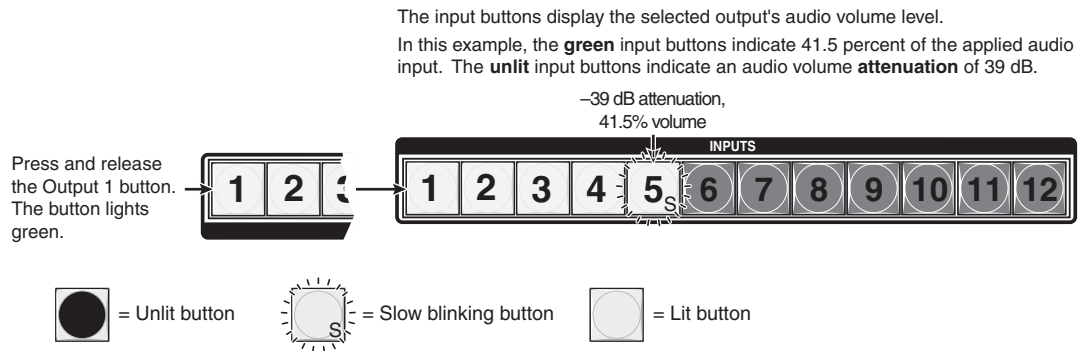

Figure 3-61 — Select output 1
3. Press and release the output 1 button (figure 3-61).